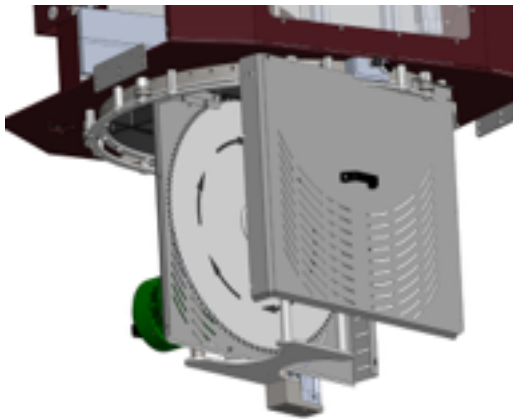

Figure 4
- 8.8.2. Remove the saw casing cover sheet metal. (Figure 4)